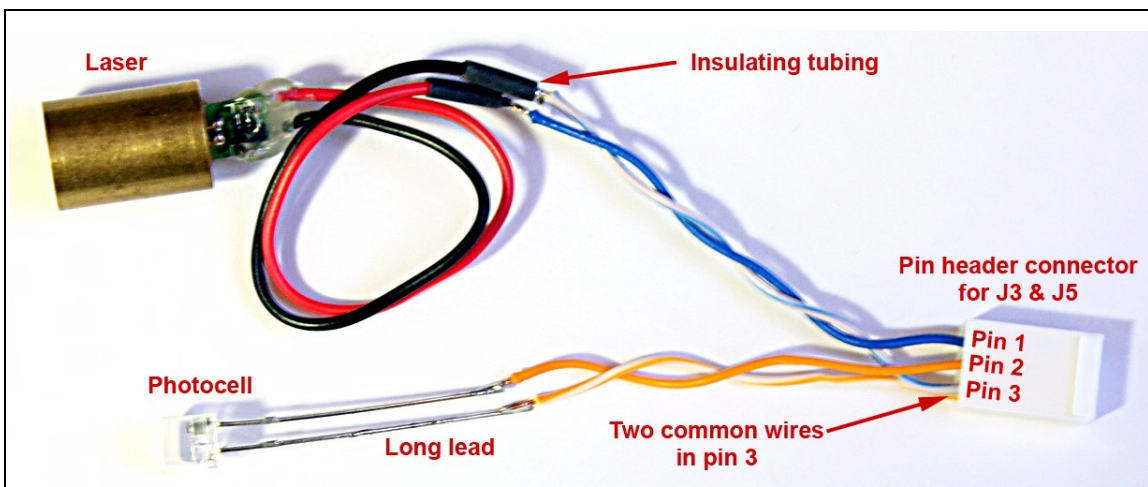

Figure 24: Laser and photocell wiring with separate cables.
Note: J3 and J5 require two wires on the contact inserted into pin 3 (see Figure 24). For this, twist the bare wires together and solder both to the contact. Bend the large tabs over both wires' insulation.
Figure 24 illustrates how to wire the laser and photocell using separate cables. Here are important points to know:
- ◆ **Figure 24** shows heat-shrinkable insulating tubing on the laser's wires that is ready to be slid over the soldered connections and shrunk, to prevent a short-circuit there. Insulate these connections.